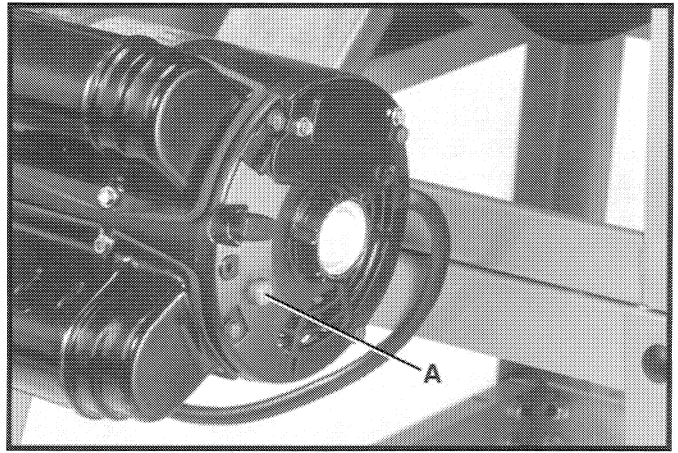

Fig. 64
The motor recommended for use with your saw is equipped with a reset overload relay button (A) Fig. 64. If the motor shuts off or fails to start due to overloading (cutting stock too fast, using a dull blade, using the saw beyond its capacity, etc.), or low voltage, turn the switch to the "OFF" position, let the motor cool three to five minutes and push the reset button (A), which will reset the overload device. The motor can then be turned on again in the usual manner.